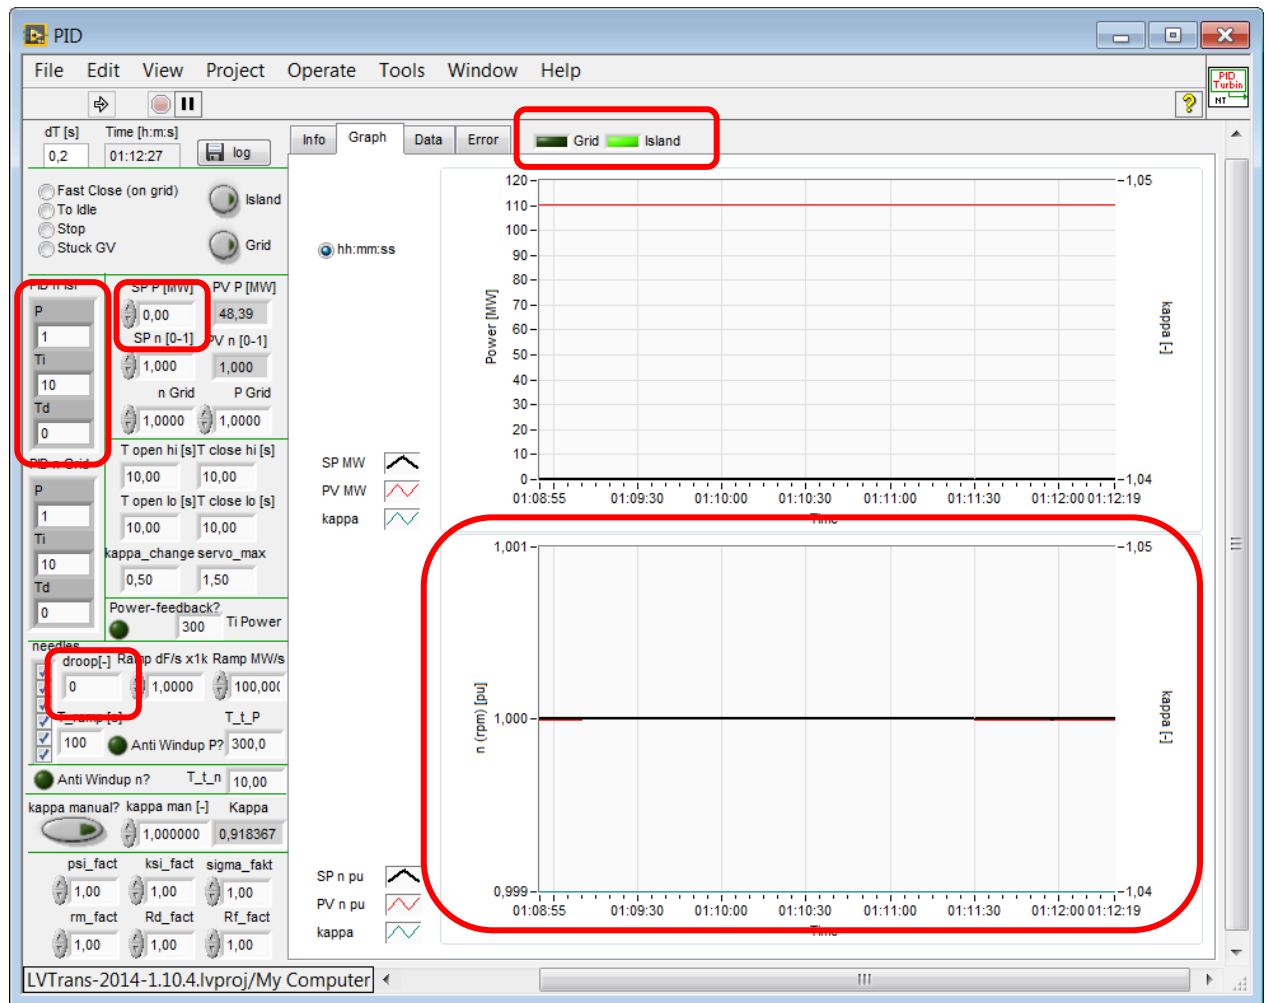

Figure 11.1 PID as set for point 3
3. Wait until everything is stable and settled ($n = 1$ og stable, non-oscillating or just slightly oscillating), see Figure 11.1